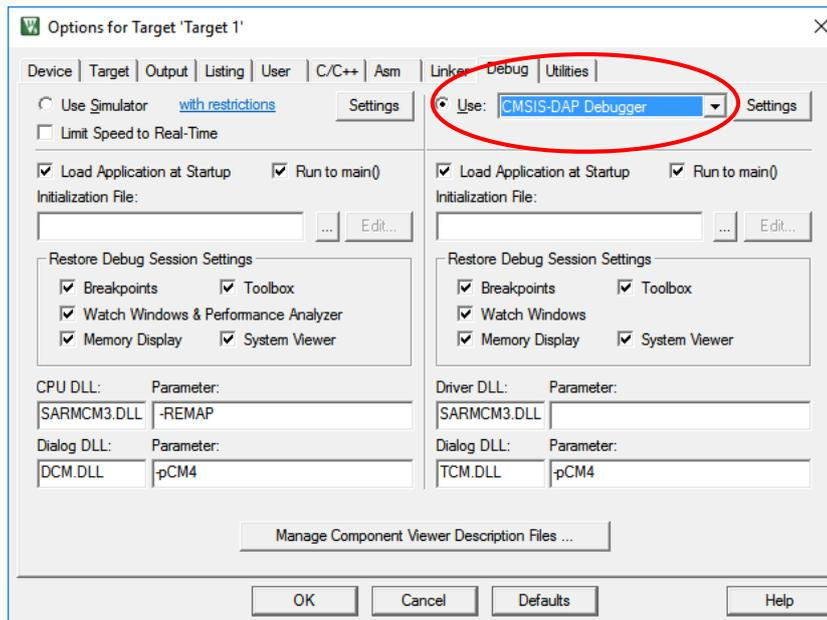

Figure 67 - uVision Debug tab
- Go to the “Debug” tab and select “CMSIS-DAP Debugger” as shown in Figure 67.